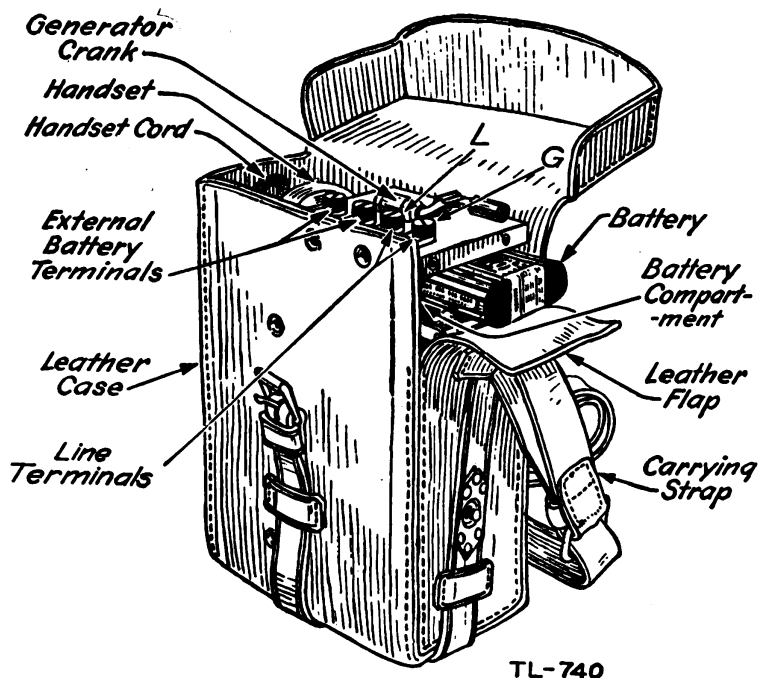

FIGURE 99.—Field telephone, type EE-5.
*Q.* How is the battery installed in the EE-5 telephone? *A.* One battery BA-9 (4½ volts) is inserted in a spring clip just below the top of the frame (see fig. 99). The battery is covered by the leather flap formed by one side of the case. Two screws which hold this